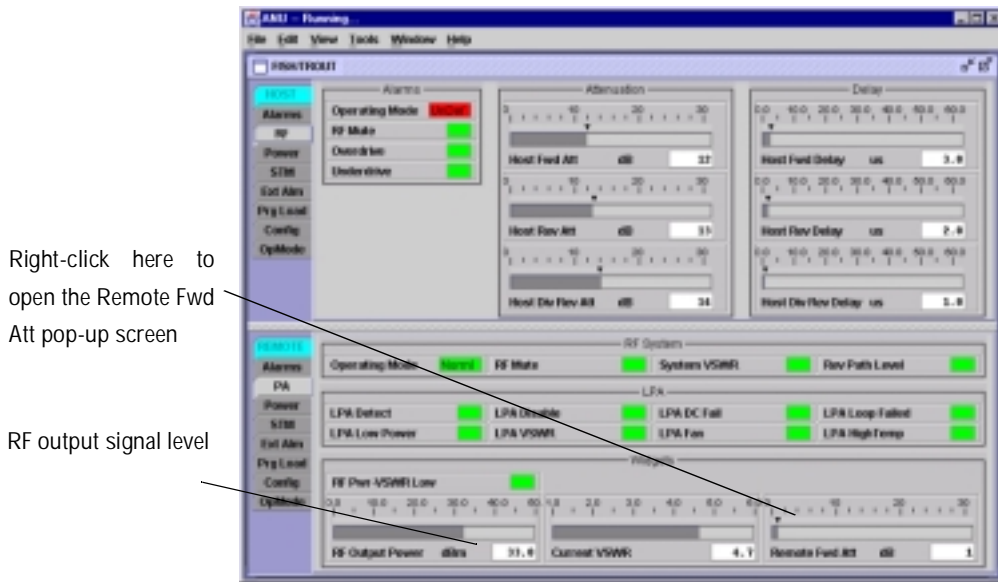
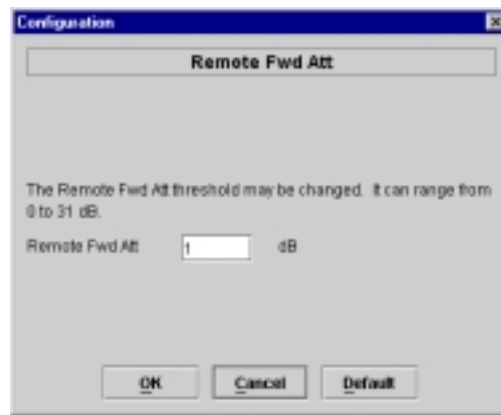

Figure 4-10. REMOTE PA Display
Figure 4-11. Remote Fwd Att Pop-Up Screen
1. Click on the **REMOTE PA** tab. The **REMOTE PA** display will open within the EMS main window as shown in Figure 4-10.
4. Right-click on the **Remote Fwd Att** section of the display (see Figure 4-10). The **Remote Fwd Att** pop-up screen will open as shown in Figure 4-11.
6. Verify that the appropriate RF output signal level appears in the **RF Pwf-VSWR Low** section (see Figure 4-10).